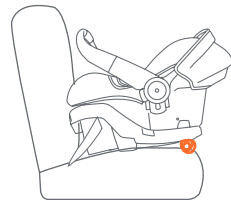

Fig. 52-2
- If the Safety Seat needs elevation on the rear of the of the safety, place a tightly rolled towel or car seat noodle, under the rear of the base, until the level indicator shows the level line parallel with the ground for occupants greater than 22 lbs to 35lbs (Fig 52-2). Re-tighten the vehicle seat belt as instructed in section **Securing the Safety Seat or Base in the Vehicle Page 37.**